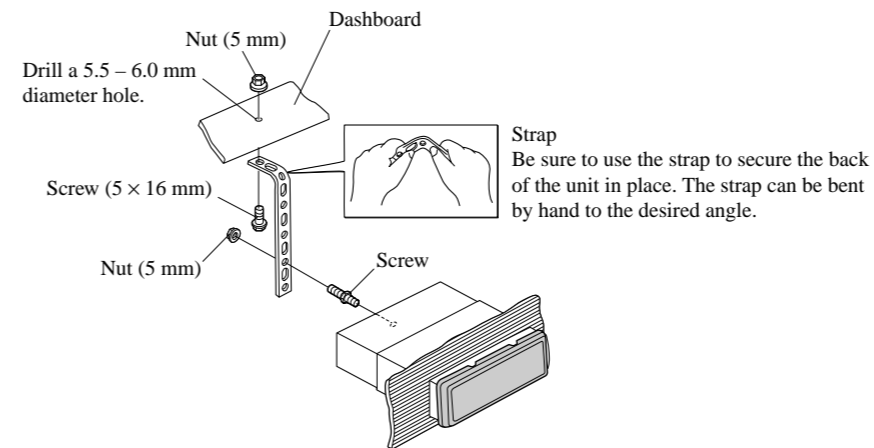

Fig. 6
**Installation without the rubber bush (Fig. 6)**